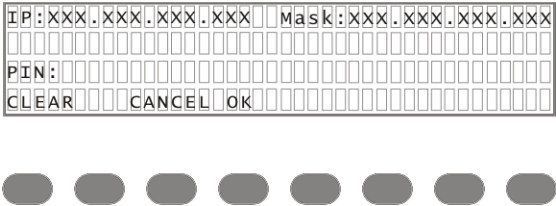
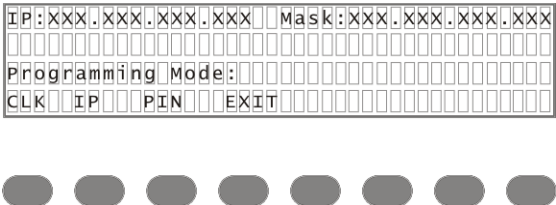

FIGURE 15. PIN Login Menu
FIGURE 16. Console Programming Mode Menu
One (1) of two (2) menus appear on the console display: *PIN login screen* or *Console Programming Mode*. See Figure 15 and Figure 16.
The C-6200 comes with a programmable **PIN Login** menu, shown in Figure 15. Once an Admin PIN has been set, it is required to access the Programming Mode menu.
- 1. On the C-6200 keypad, press and hold the **MUTE** button, the **F16** button, and the **GRP** button, in that order. *One (1) of two (2) menus appear on the console display: PIN Login Screen or Programming Mode, see Figure 15 and Figure 16.*
1. On the C-6200 keypad, press and hold the **MUTE** button, the **F16** button, and the **GRP** button in that order. One of two (2) menus appear on the console display: *PIN Login screen, Figure 15, or Programming Mode, see Figure 16.*
One of two (2) menus appear on the console display: PIN Login screen, see Figure 15 or Programming Mode, see Figure 16.